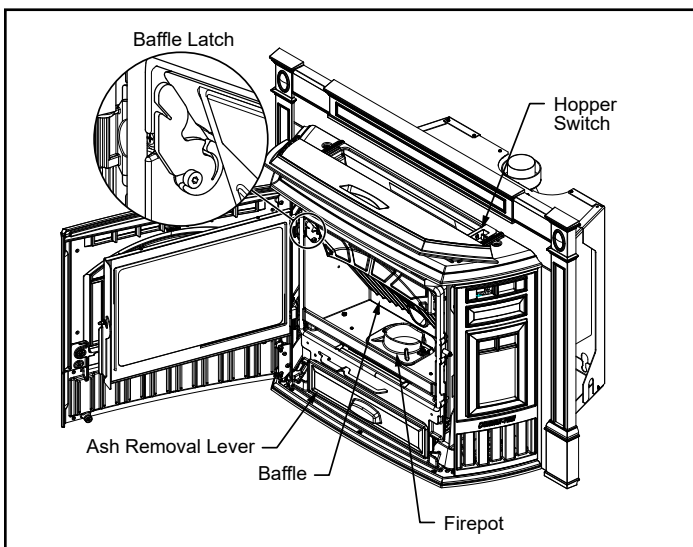

Figure 20.1
- c. Pull firepot floor cleaning lever two times until the ash falls into the ash pan below (**Figure 20.1**).